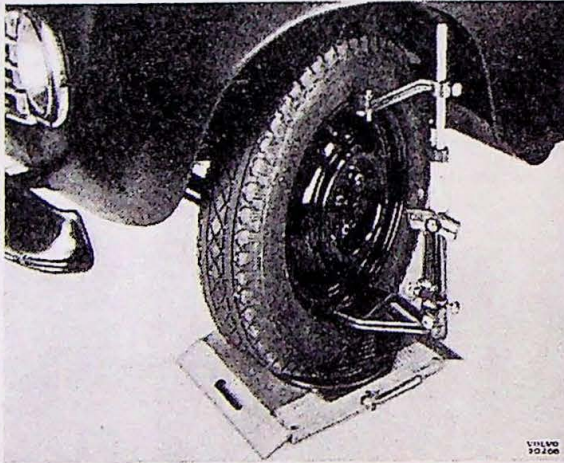

Fig. 30.
1. Turn out the wheel 20 degrees by means of the steering wheel. The wheel is turned 20 degrees when one of the turntable edges is parallel with the side lines of the support (fig. 30).